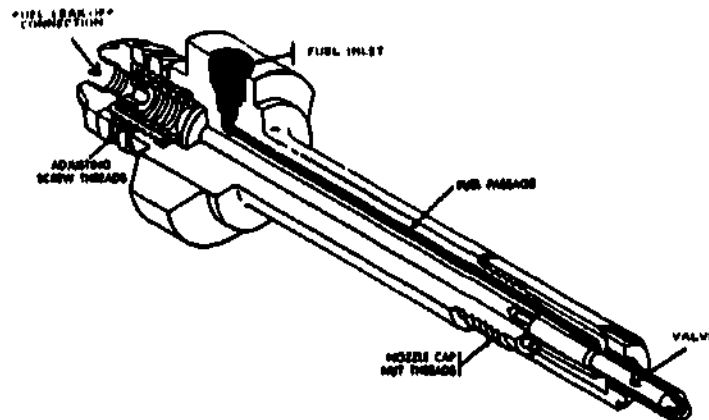

Fig 3-9. Injector valve.
j. Injector nozzles (fig 3-9). Fuel must be injected into the combustion chamber in a spray form. This is accomplished by the injector nozzle. The injector nozzle consists of a nozzle body that has a fuel inlet connection and an internal fuel passage. A valve is fitted through the center of the nozzle body. A cap containing the valve seat is threaded on the combustion chamber end of the nozzle body. A spring at the outer end of the nozzle holds the valve tight against its seat in the cap. The fuel delivered by the high-pressure line enters the injector nozzle fuel inlet, flows through an internal passage, and fills the area above the valve seat. There the fuel presses on the valve